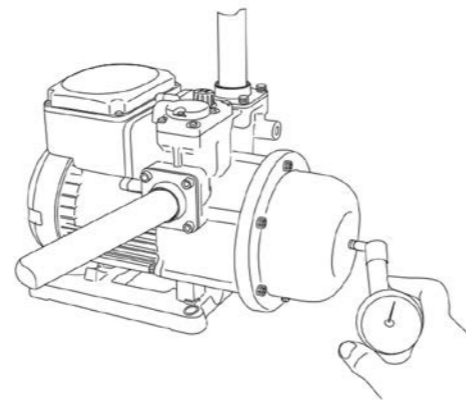

Figure 4
4. Pressure tank air charge should be checked at regular intervals of every 3 months and after the pump has not been used for a prolonged period. To check the Pressure Tank air pressure, turn off the power, open a tap on the discharge line to release pressure from the pump, unscrew the black plastic cover and apply an accurate pressure gauge to the valve as shown in Fig 4.